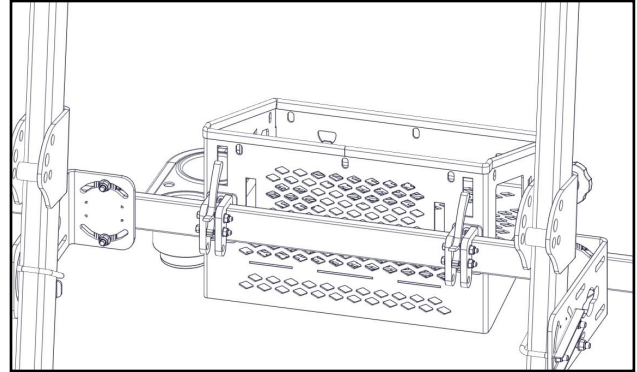

Fig. 7 (attaching a beverage cooler holder)
7. Figure 7 shows a beverage cooler holder installed onto an Artillian ROPS Mounted Tool Bar.